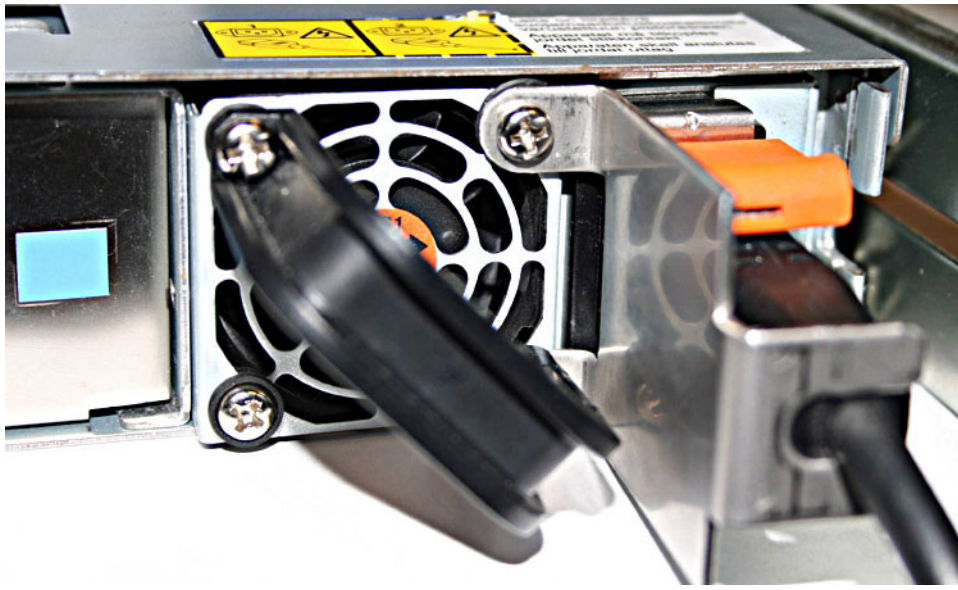

Figure 22. The SAN Volume Controller 2145-8G4 with the cable-retention bracket attached
1. Carefully remove the two retaining screws on the right side of the power supply rear plate shown in Figure 22.